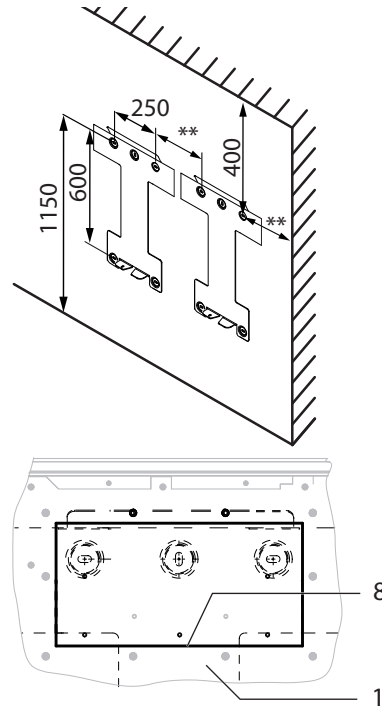

Figure 12: Position of wall holder/suspension
- 1. Mark the suspension position with a line on the wall surface corresponding to the position of the wall holder (Figure 12).
NOTE: The minimum clearances between two inverters, or the inverter and the ceiling/floor have already been taken into account in the diagram (Figure 12 on page 15).